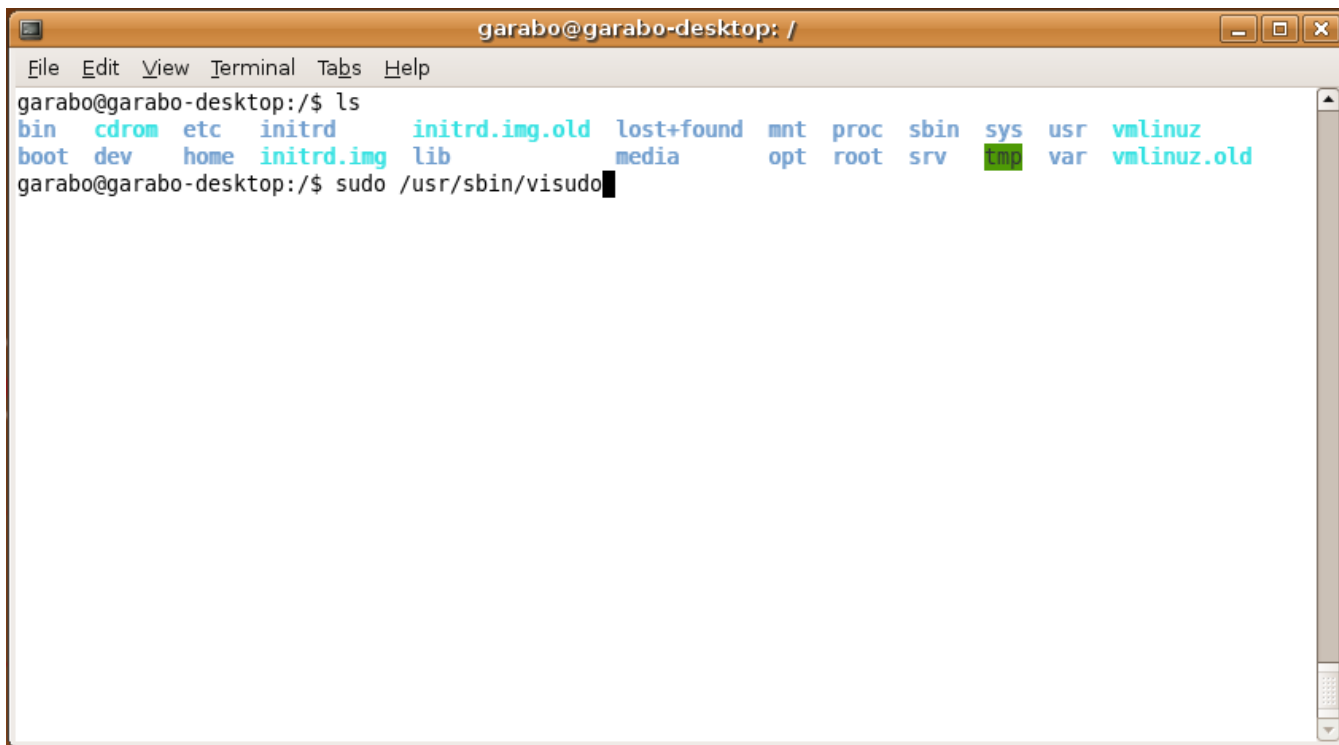

Figure 7. Sudo permission
1. First, configure the sudo permission that allows execution of rpm commands as root without a password. Switch to root and execute the command “/usr/sbin/visudo”. Please refer to Figure 7.